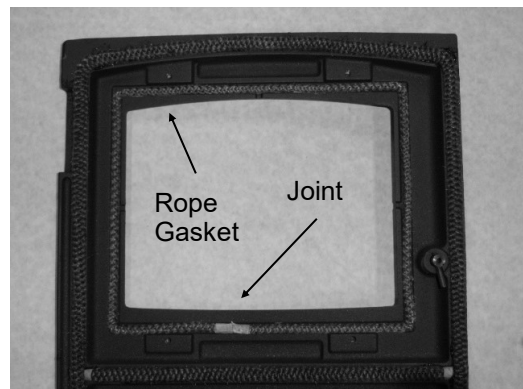

Fig. 6. Lining Up Gasket Rope
- Replace the glass rope gasket; start at the bottom of the window, centrally, push the adhesive side of the rope into the groove on the rear of the casting. Gradually work your way around until the end of the rope meets. See Fig. 6.